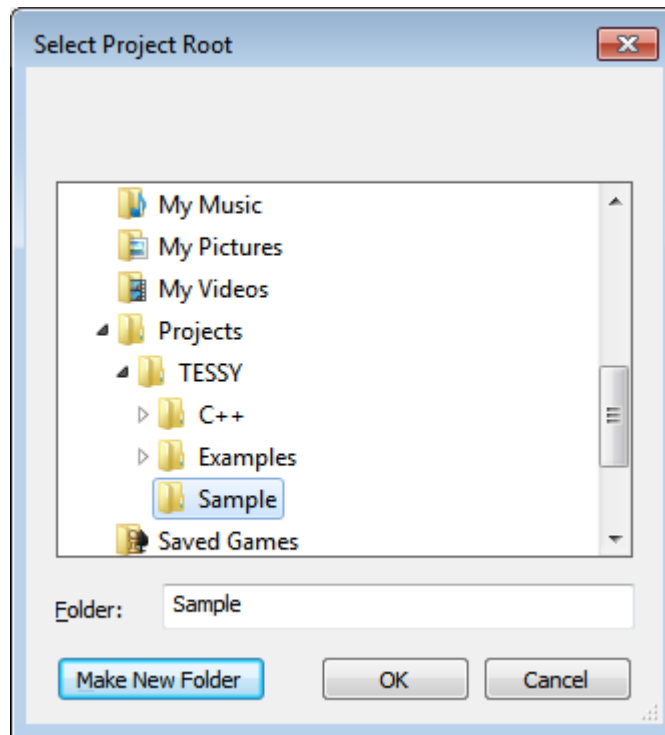

Figure 4.3: Selecting a folder for the project root.
- Select a project root: Click on “...” and select a directory where your development project resides, i.e. where source and header files are located and where a sub directory “tessy” containing the test project shall be created (see figure 4.3).